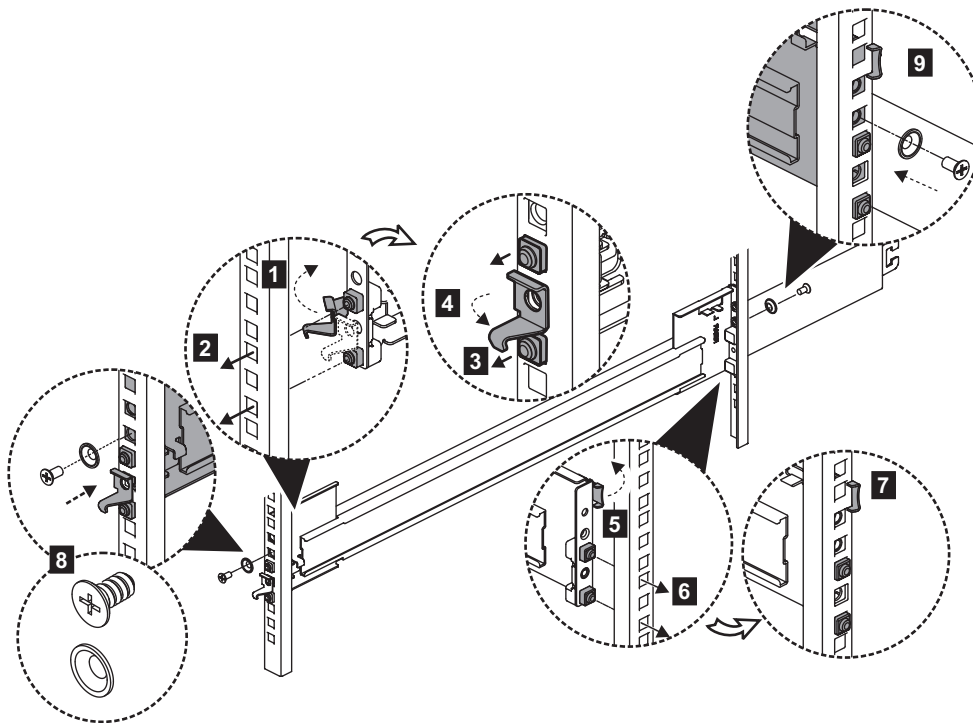

Figure 61. Install the bracket assembly to the frame
7. Install the outer section of the rail to the rear frame, as shown in Figure 61.